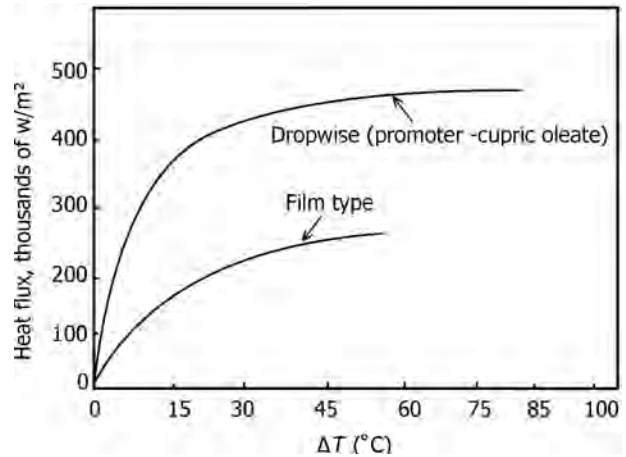

FIGURE 9.5 Comparison of heat flux for film-type and dropwise condensation.
- Comparison between dropwise and film-type boiling is illustrated by Figure 9.5.